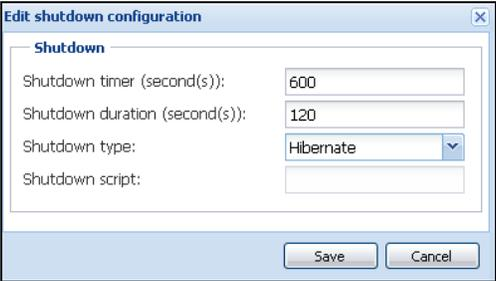

Figure 110. Edit Shutdown Configuration Dialog Box
- The IPM default configuration is available from **Settings > Shutdown > Edit Shutdown Configuration** (see Figure 110).